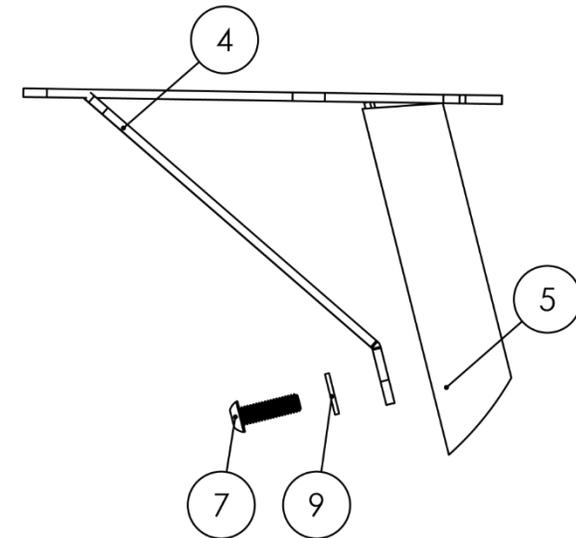

Figure 10
6. **Attach the Crossbar Gussets to the Legs.** Grab the (4) Crossbar Gusset Assemblies (Item No. 4) and notice that their angular projection parallels the inside of the Legs (Item No. 5). As shown in Figure 10, slide this end into the Legs and secure the parts by threading a 1.25" Button Head Cap Screw (Item No. 7) and a Metal Washer (Item No. 9) into the concentric holes.